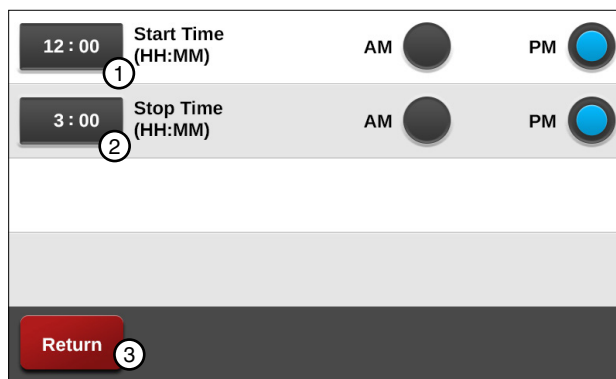

Figure 95-2 1. Start Time 3. Return
Configure Times is used to set the daily machine start time and daily machine stop time for Daily Ops to be active. When 24 hour clock format is enabled in Menu/Setup/Display/Date/Time, daily start and stop times are entered in 24 hour clock format. For example, a time of 6:00 PM is entered as 18:00 hours or a time of 10:00 AM is entered as 10:00 hours. Factory default value is 00:00. Refer to Figure 95-2.
2. Push the **Configure Times** button to display the Configure Times screen. Refer to Figure 95-2.